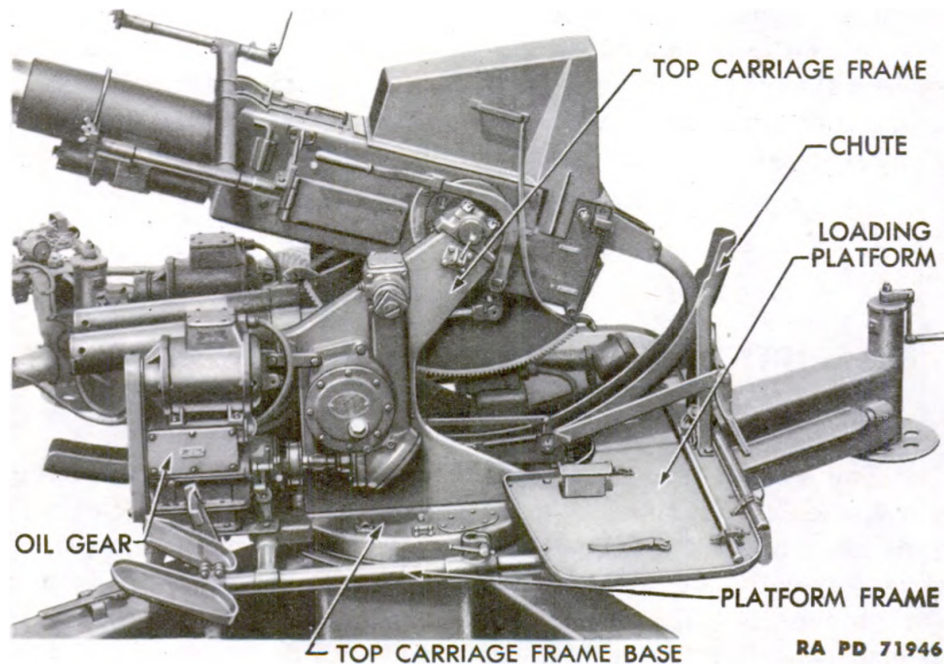

Figure 47 – Top Carriage and Loading Platform Frame
a. The 40-mm Gun Carriages M2 and M2A1 (AA) are of the 2-axle, 4-wheel trailer type. A drawbar with a standard drawbar lunette forms the connection between the carriage and the prime mover. The carriage is equipped with 4-wheel electric brakes operated from the prime mover, and manually operated mechanical brakes on the rear wheels. The lighting equipment includes taillight, stop, and black-out lights.
a. The top carriage (fig. 47) consists of two built-up top carriage frames welded to a rigid cast top carriage frame base. The frames are connected near the center by a large cross tube which also houses the elevating mechanism worm wheel pinion. At the tops of the frames and back of center are the top carriage trunnion bearings and caps which support the tipping parts of the weapon. At the angular points at the front of the frames are the trunnion bearings for the equilibrators.
**40-MM AUTOMATIC GUN M1 (AA) AND 40-MM ANTI-AIRCRAFT
a. The loading platform frame (fig. 47) is a tubular frame of rectangular shape with two intermediate cross members. These cross members fit the cradles into lugs and are also attached to the lugs on the top carriage frame base.